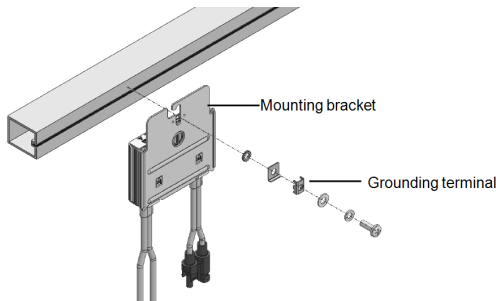

Figure 7: Power optimiser grounding terminal
- **For mounting on un-grounded structures** (such as a wooden structure): If the star washer or the plate cannot be used, use the SolarEdge grounding lug (purchased separately) with an equipment-grounding conductor according to the supplied instructions. The grounding terminal accepts a wire size of 6-14 AWG, and must be sized for equipment grounding per NEC 250.122 requirements. Tighten the screws connecting the power optimizer to the frame and the grounding terminal screw. Apply torque of 9.5 N*m / 7 lb*ft. See Figure 7